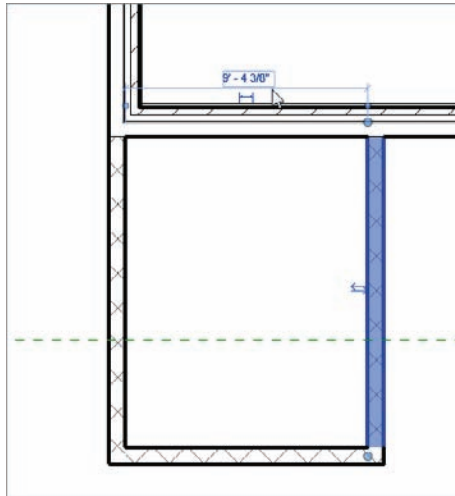

FIGURE 2.23 Temporary dimensions can be adjusted to measure from different wall faces by picking the witness line grip.
1. Select the right, vertical CMU wall. A blue temporary dimension appears. (If it doesn't, go to the point indicated and click the blue grip. Doing so moves it to the correct location.) This dimension indicates the centerline increments, as shown in Figure 2.23.